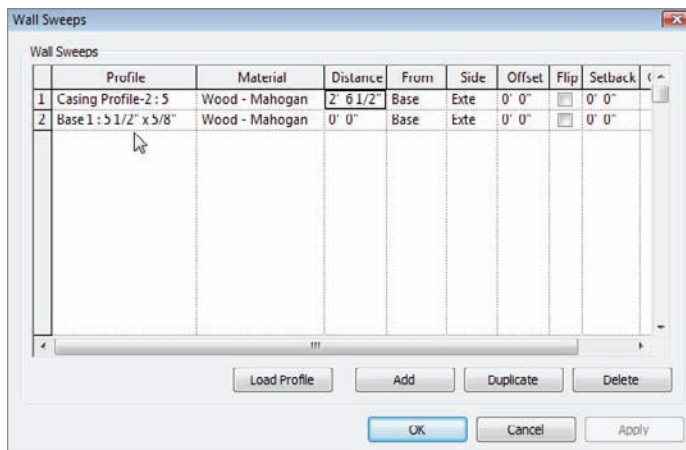

FIGURE 16.10 Configuring the two sweeps
19. In the Wall Sweeps dialog, click the Add button, as shown near the bottom of Figure 16.10.
25. Set Distance 2'-6 1/2" (775mm) from the base, as shown in Figure 16.10.